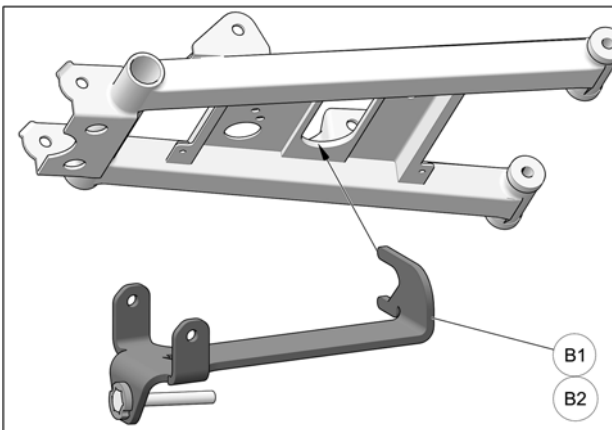

Fig. 6
- Lift anchor bracket (B1-B2) up to lower suspension arm and hook C-shaped rear part of bracket on reinforcing plate of suspension arm as shown in Fig. 6